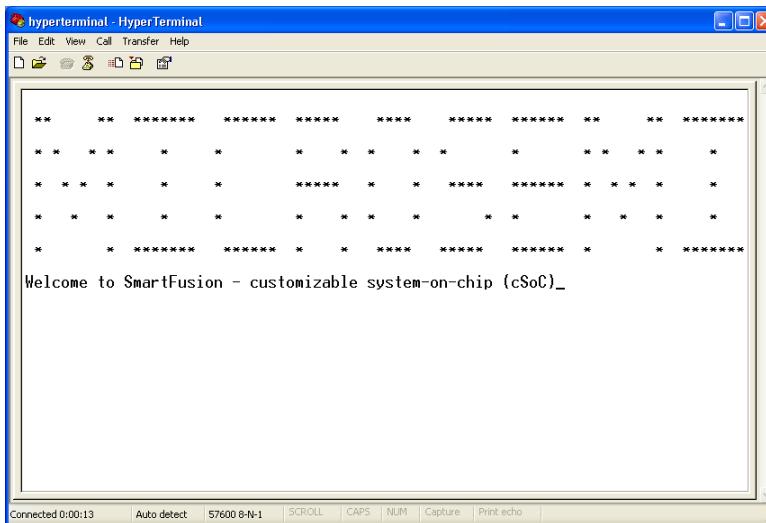

Figure 29 · HyperTerminal with Microsemi Name and Greeting Message
8. Observe the HyperTerminal window. It should display the greeting message with the Microsemi name, as shown in Figure 29 .